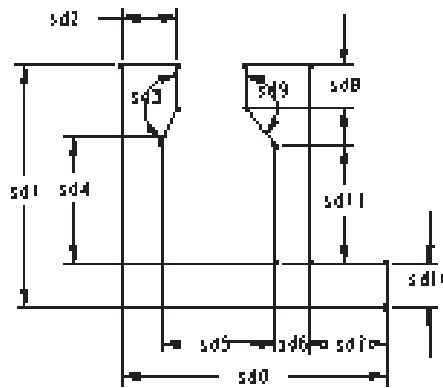

Figure 1-41 Sketch after applying dimensions
- Select line A using the left mouse button. The line turns red in color. Now, using the middle mouse button, place the dimension below the sketch. The dimension appears as **sd0**, see Figure 1-41.
- Select line B using the left mouse button. Using the middle mouse button, place the dimension on the left of the sketch. The dimension appears as **sd1**, see Figure 1-41.
Similarly, dimension all the entities that are shown in the sketch in Figure 1-41.